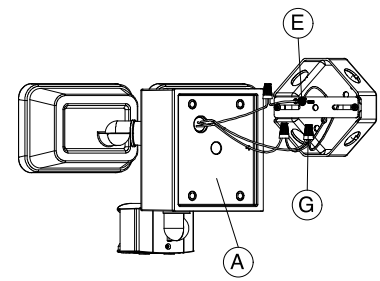

Figure 3
3. Connect the supply wires to the **LED light fixture (A)** wires using the **Wire Nuts (G)** included. (See Figure 3)